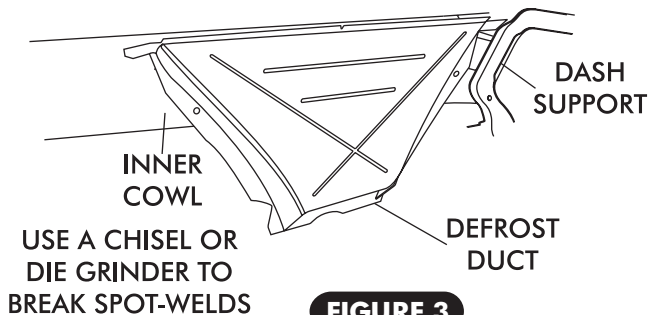

FIGURE 3
- ☐ OEM DEFROST DUCT ASSEMBLY, SEE FIGURE 3 BELOW.
- ☐ OEM A/C AND HEATER ASSEMBLY. SEE FIGURE 3 BELOW.